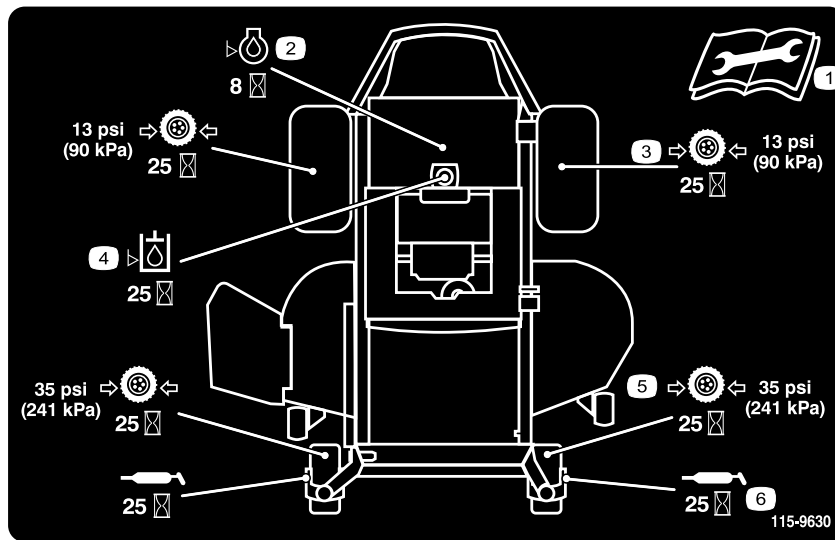

Figure 33
3. Clean the grease fittings (Figure 33 and Figure 34) with a rag. Make sure to scrape any paint off of the front of the fitting(s).
4. Connect a grease gun to each fitting (Figure 34 and Figure 33). Pump grease into the fittings until grease begins to ooze out of the bearings.